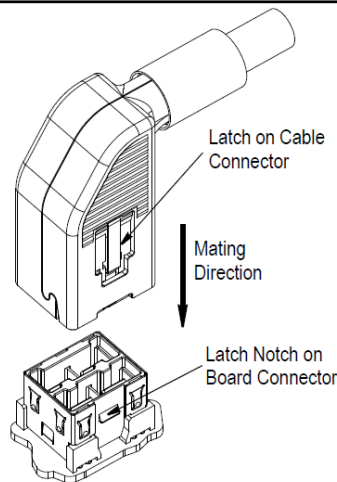

Figure 11
1. Orient the cable connector so that the latch of the cable connector is located on the latch-side of the board connector. See Figure 11.